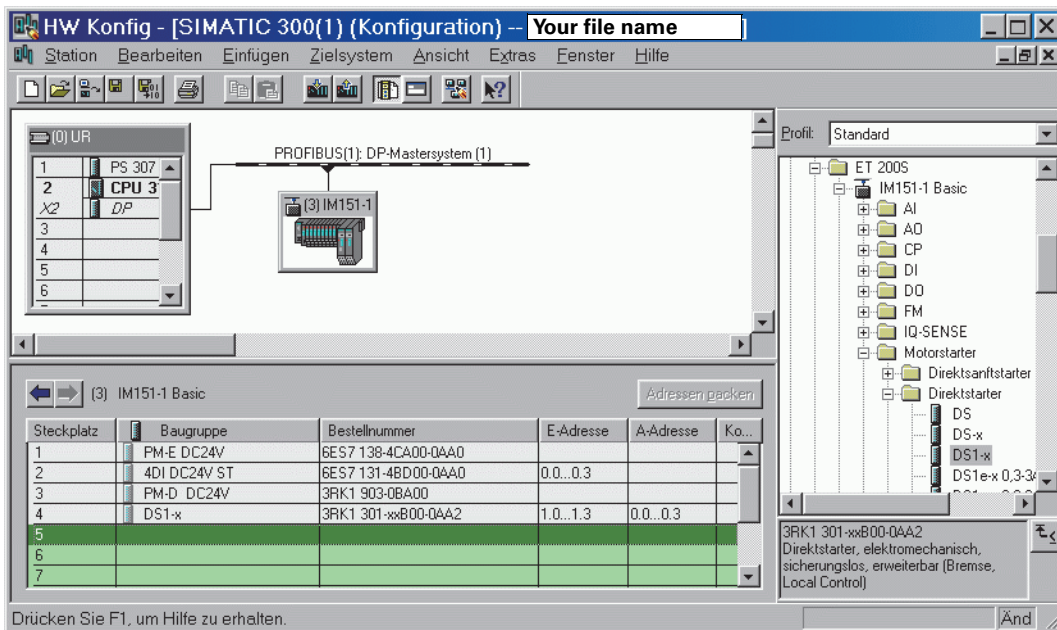

Figure 2-4: Modules in STEP 7 "hardware configuration"
1. Start the SIMATIC Manager and create a new project with a DP master (e.g. CPU315-2 DP) (see Figure 2-4).
5. Drag the individual ET 200S modules from the hardware catalog into the configuration table (see Figure 2-4).